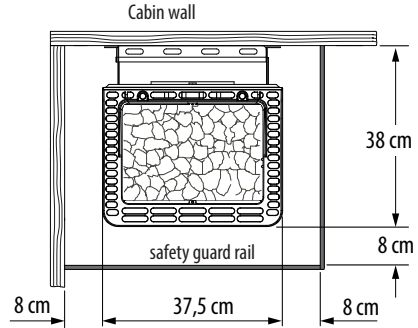

Fig. 2
- When you install the sauna heater you must ensure that the vertical distance between the top edge of the sauna heater and that the horizontal (at the side) distance between the heater and cabin wall is at least **8 cm** (Fig. 2).